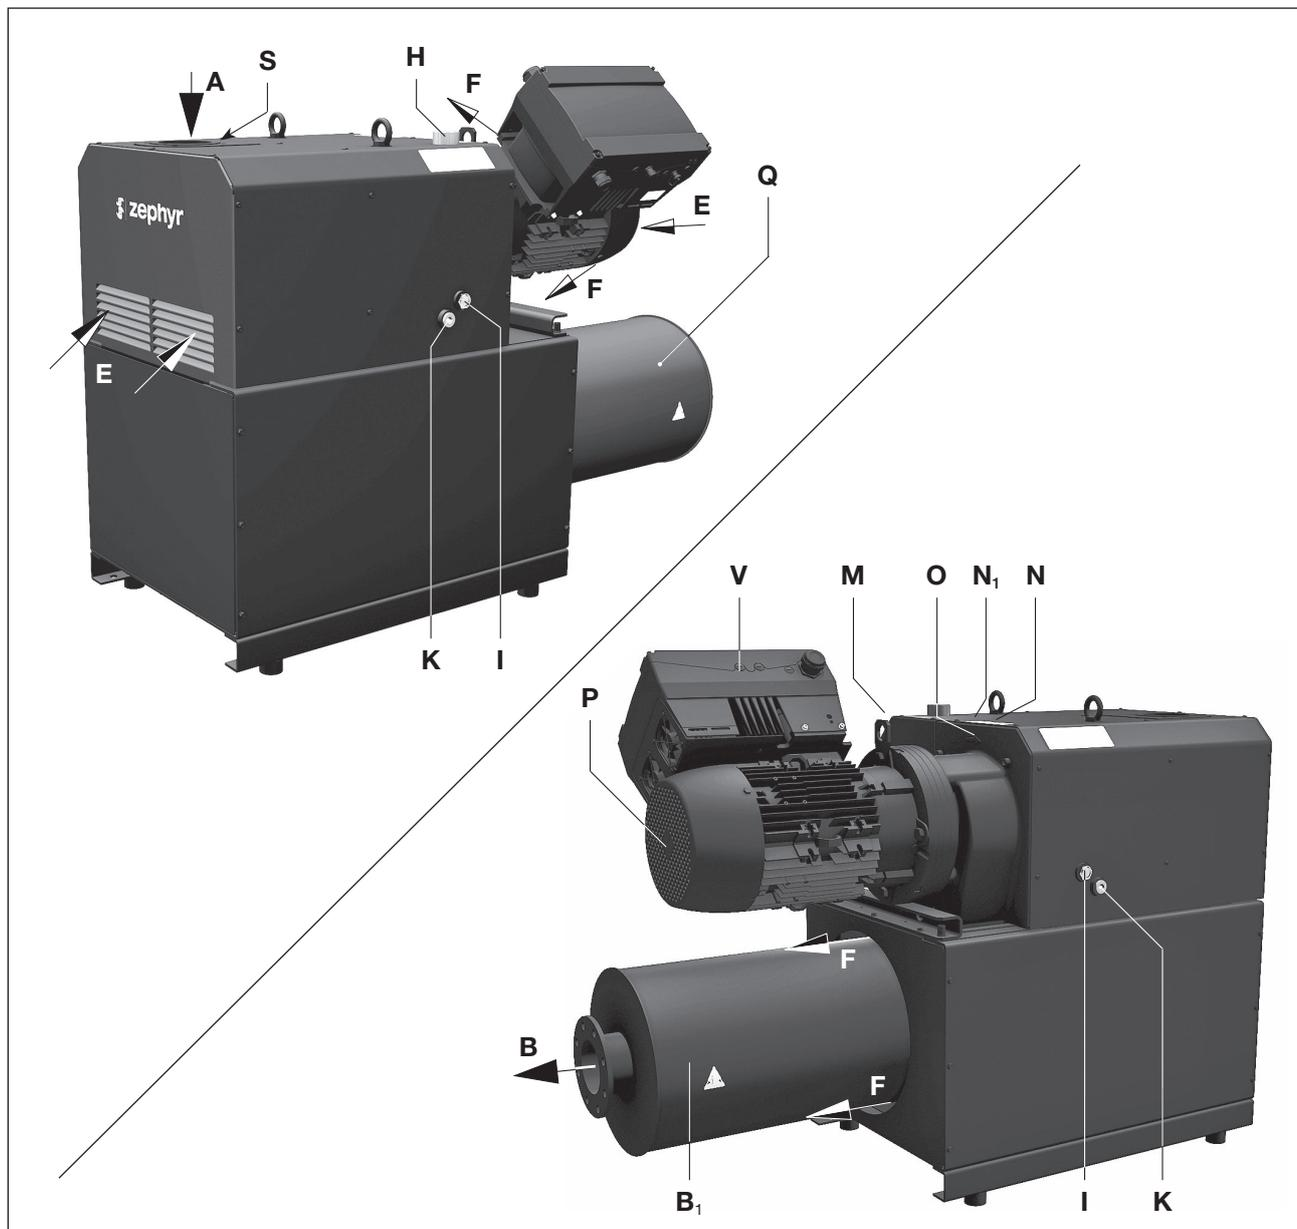

Fig. 2 Vacuum pump C-VLR 1000
- the machine must only be operated at speed and frequency range according to the data plate (Fig. 2/N1)
The C-VLR 1000 model has a connection flange on the inlet side and an exhaust silencer on the pressure side (Fig. 2/B1). The air sucked in is cleaned by a micro-filter (Fig. 2/S).
The gearbox and the compression chamber are separated from each other by special seals. The gearbox is sealed from the outside with shaft seals and O rings, the compressor chamber with piston rings. The VLR 1000 is enclosed in an insulating hood. In order to dissipate compression heat, the cooling air is sucked through between the machine and the hood using a drum fan that sucks in the fresh cooling air (Fig. 2/E) and discharges the heated air out of the cooling air outlet (Fig. 2/F).
The VLR 1000 is driven by standard flanged three-phase motors via a coupling. Three-phase motor with integral frequency converter (Fig. 2/M) makes possible infinitely variable control of the speed.
The oil filling point (Fig. 2/H), oil sight glass (Fig. 2/I) and the oil outlets (Fig. 2/K) must be easily accessible. The cooling air inlets (Fig. 2/E) and the cooling air outlets (Fig. 2/F) must be at least 30 cm away from adjacent walls. Cooling air coming out must not be sucked in again.
- a) Remove the adhesive sheets from the vacuum connection (Fig. 2/A).
- c) The extracted air can be discharged through the exhaust silencer (Fig. 2/B) or conducted away via the flange and a pipe.
- a) Fill the lubricating oil (for suitable types see "Maintenance") for the gear wheels and oil filling point (Fig. 2/H) up to the middle of the sight glasses (Fig. 2/I).
When the machine is at operating temperature the surface temperatures on the components (Fig. 2/Q) may go above 70 °C. You must avoid touching the hot surfaces (marked with warning plates).
- ▷ The intended direction of rotation of the drive shaft is shown by the rotary direction arrow (Fig. 2/O) on the motor flange.